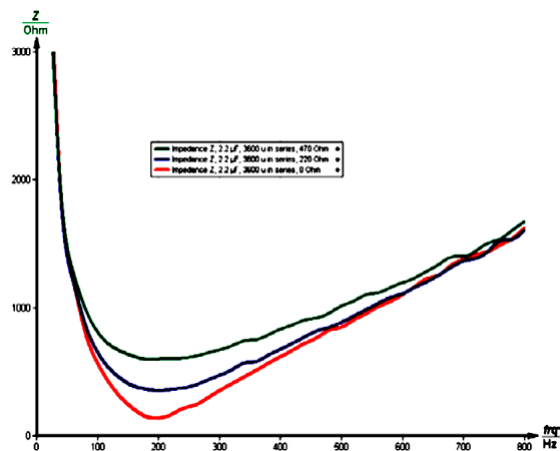

Figure 2.35:
- 12) Use “**Measurement**” → “**Assume channel...**” and “**Measurement**” → “**Channel manager...**” to display the three impedance curves with the damping resistor values  $R_D = 0 \Omega, 220 \Omega$  and  $470 \Omega$  for the  $2.2 \mu F$  capacitor in a single plot. Scale the impedance curves to the same value either using the “**Scale curves**” tool with the option “**set to values**” or using “**Measurement**” → “**Display options...**” filling appropriate values into the field “**Displayed area**” on the “**Channels**” chart. The result may look like Figure 2.35.